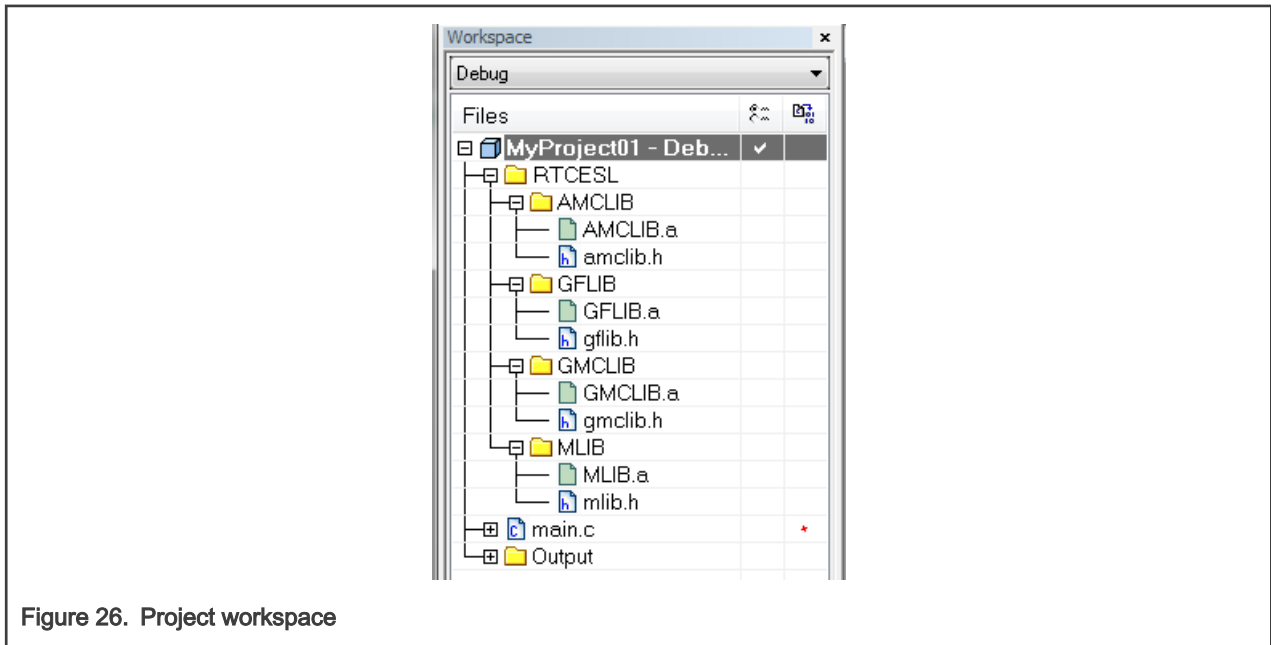

Figure 26. Project workspace
- Click on the newly created node MLIB, and go to the main menu Project > Add Files... See Figure 26.
23. Now you will see the files added in the workspace. See Figure 26.